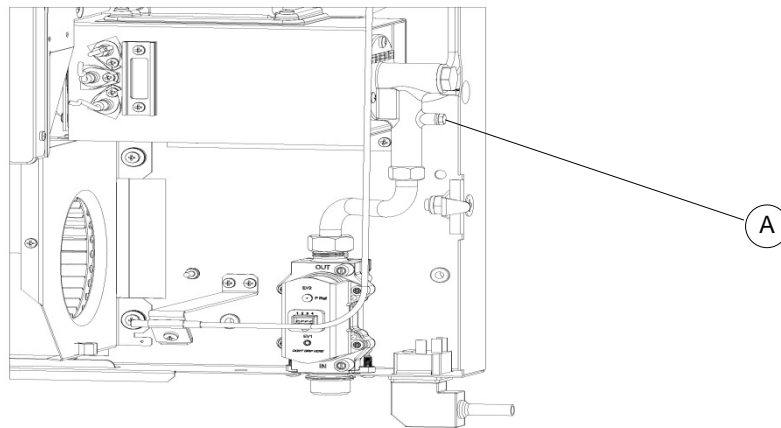

Figure 18 .
2. Connect a pressure gauge to pressure test fitting A (see Figure 18), after having first removed the sealing screw.
automatically return to normal operation. If the overheating continues as a result of the grille being obstructed, the pre-limit thermostat (reference B in Figure 18), turn off the heater; the display will show the error E010, which will reset automatically when the temperature of the heat exchanger falls.
D) **Continuous overheating:** if the fan stops during operation of the heater, the safety thermostat will trip to disconnect the electrical power supply to the solenoid valve, thereby interrupting the flow of gas to the burner (the display will show the error r002). To restore heater operation, wait for about ten minutes for the temperature to fall, **disconnect the electrical power supply** to the heater, remove the outer casing and reset the safety thermostat by pressing the reset button located on the safety thermostat itself inside the heater (see reference A in Figure 18). Then reset